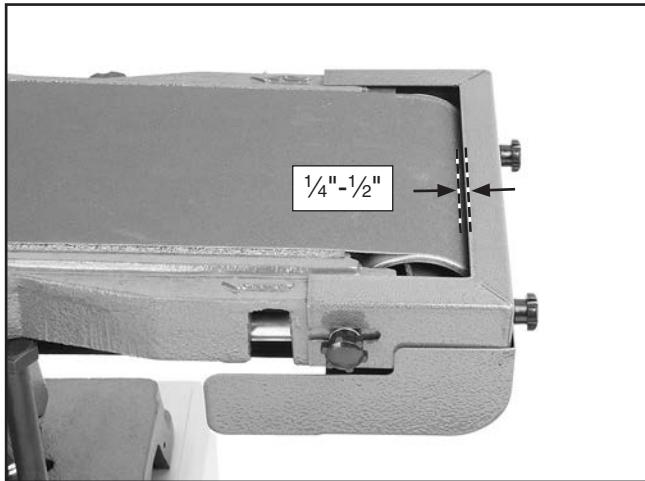

Figure 38. Correct distance between belt and idler guard. Measuring distance (inset).
- 24.** Adjust the inside edge of the idler roller guard $\frac{1}{4}$ - $\frac{1}{2}$ " away from the sanding belt (see **Figure 38**).